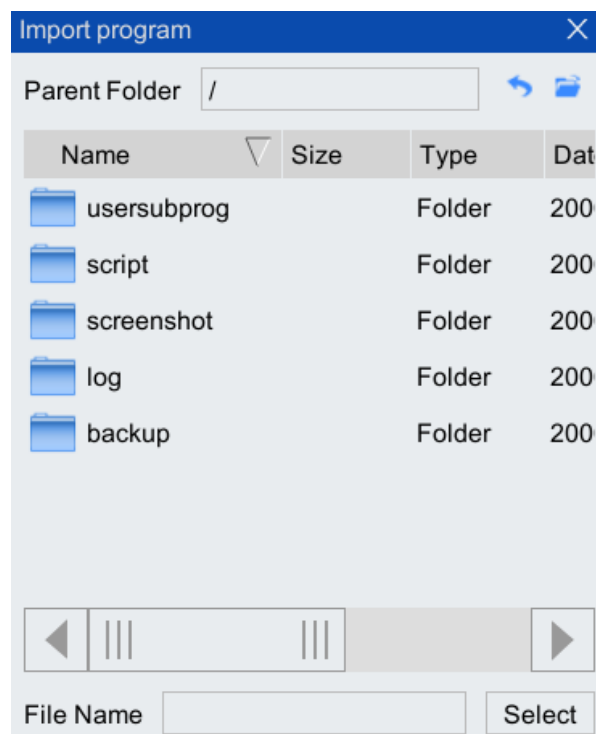

Figure 7-7"Import Program" interface
Step1.In the main interface of the teach pendant, click "File > Restore Backup > Program File" option, and the "Import Program" list box as shown in Figure 7-7 will pop up.